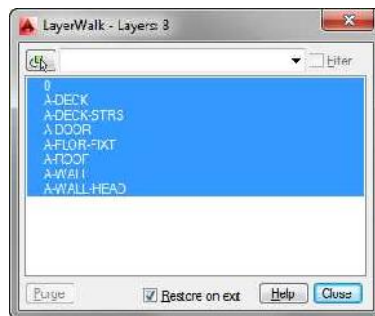

FIGURE 6.49: The LayerWalk dialog box
6. Click the Layer Walk button in the extended Layers panel to open the LayerWalk dialog box, shown in Figure 6.49.